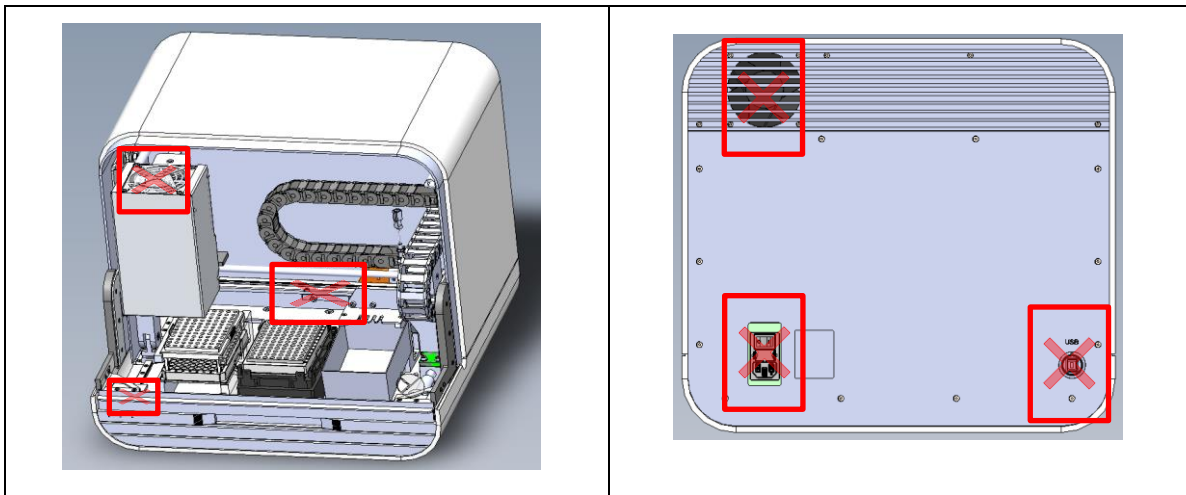
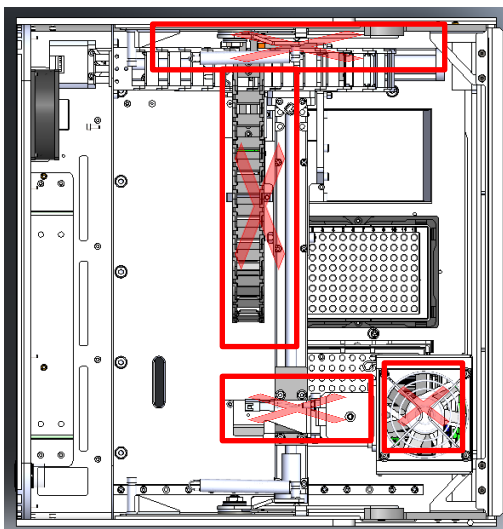

Figure 12. Open front view and back view of WHITE FOx with indications of the area where liquid must be avoided (electrical and moveable parts).
Figure 13. Top view of WHITE FOx mechanical layout with indications of the area where liquid must be avoided: the electrical and moveable parts.
Inner and outer surfaces can be cleaned using a damp cloth with mild soap solution and water or 70 % ethanol or another alcohol-based disinfectant. Be careful not to excessively spill cleaning liquid on the inside of WHITE FOx and power supply inlet. Avoid cleaning of moveable parts. Do not use liquids to clean the top of the optical measuring head or the area of the power supply inlet. Avoid the use of dry raw paper to clean or dry the equipment to avoid scratches on the surfaces. Figure 12 & Figure 13 indicate the areas where contact with liquids must be avoided. Do not use other cleaning solutions.
2. Clean all surfaces (except the optical head and the power supply inlet as indicated in Figure 12. ), with a soft cloth which has been soaked in disinfecting solution, e.g., 70% ethanol or isopropanol.